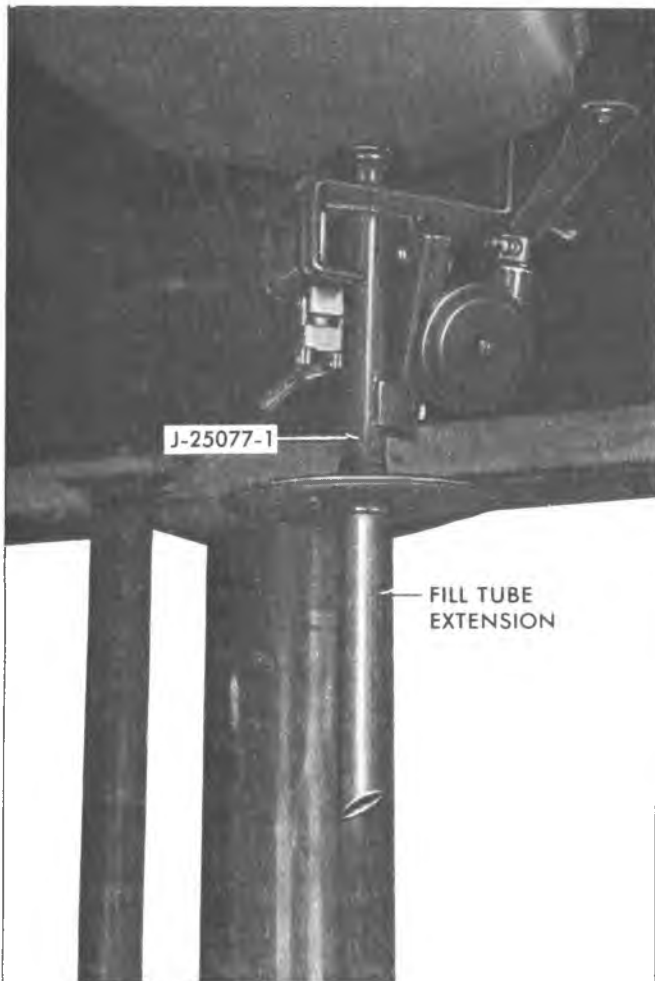

Fig. 10—Fill Tube Extension
2. Install fill tube extension to the fixture J-25077-1 (Fig. 10).